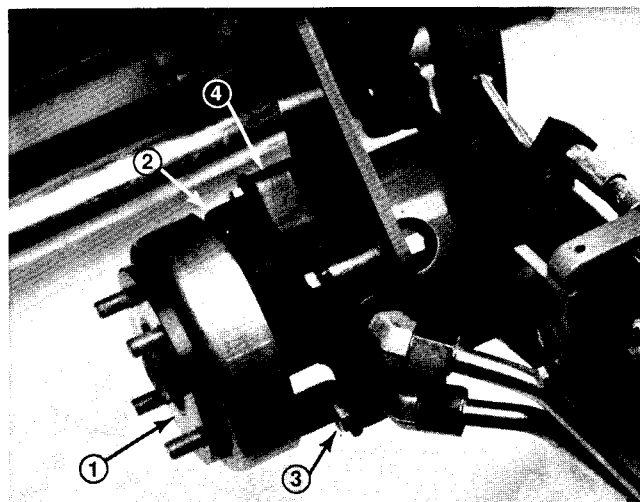

Figure 36
3. Mount a wheel puller to wheel mount studs and remove wheel hub and brake drum (Fig. 36). Remove key from wheel motor shaft.
5. Remove four (4) capscrews, nuts and lockwashers to remove wheel motor and brake brackets from frame.